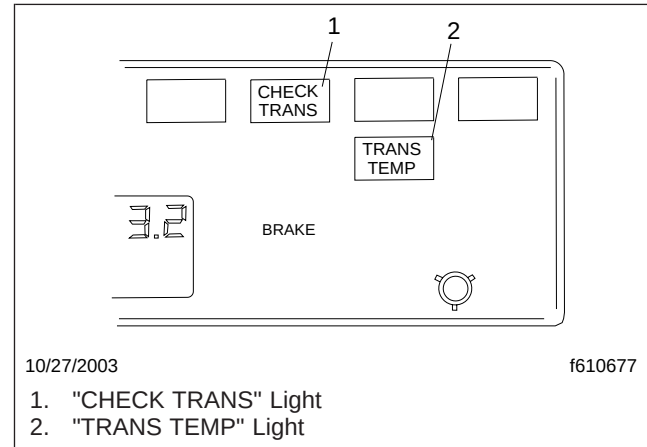

Fig. 8.23, Telltale Lights
1. With the parking brake set and/or the brake pedal pressed down, select neutral (N) by moving the selector switch to the center position.
2. With the transmission in neutral, turn on the ignition switch. The "CHECK TRANS" and "TRANS TEMP" telltale lights come on and go out again (bulb check). See Fig. 8.23.